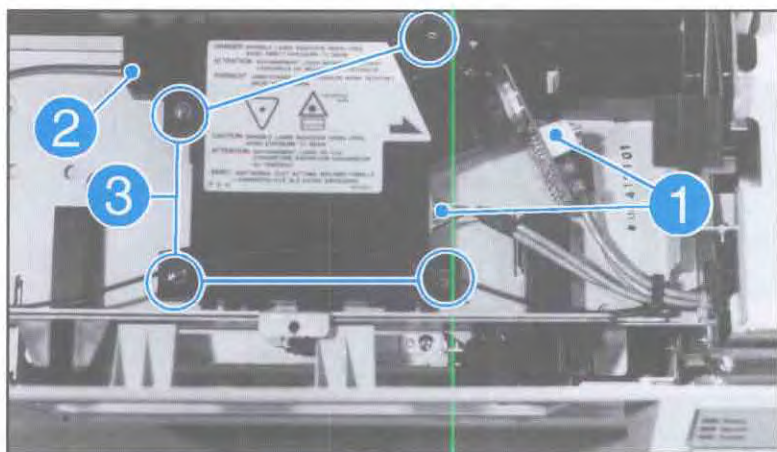

Figure 6-28. Laser/Scanner Assembly
3. Unplug the (2) Laser/Scanner connectors (see Figure 6-28, callout 1).
4. Disconnect the (1) fiber-optic cable (see Figure 6-28, callout 2).
5. Remove the (4) screws securing the Laser/Scanner Assembly and remove the assembly (see Figure 6-28, callout 3).